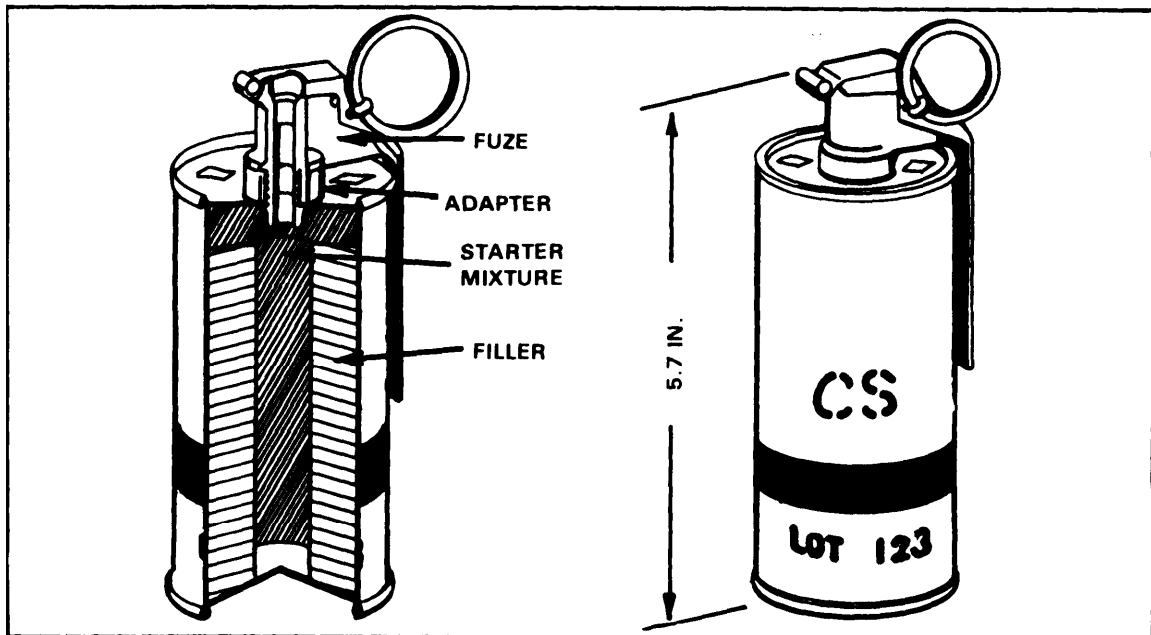

Figure 1-14. ABC-M7A2 and ABC-M7A3 riot control grenades.
a. ABC-M7A2 and ABC-M7A3 CS (Figure 1-14). The ABC-M7A2 and the ABC-M7A3 riot control hand grenades contain only CS as a filler. They differ only in the amount of filler and the form of the CS they contain.
(1) Body -- the bodies of both grenades are sheet metal with four emission holes at the top and one at the bottom.
(2) Filler -- 5.5 ounces of burning mixture and 3.5 ounces of CS in gelatin capsules in the ABC-M7A2 grenade, and 7.5 ounces of burning mixture and 4.5 ounces of pelletized CS agent in the ABC-M7A3 grenade.
(3) Fuze -- M201A1, see paragraph 1-4.
(4) Weight -- approximately 15.5 ounces.
(5) Safety clip -- no.
(6) Capabilities -- can be thrown 40 meters by average soldier. Both grenades produce a cloud of irritant agent for 15 to 35 seconds.
(7) Color/markings -- gray body with a red band and red markings.